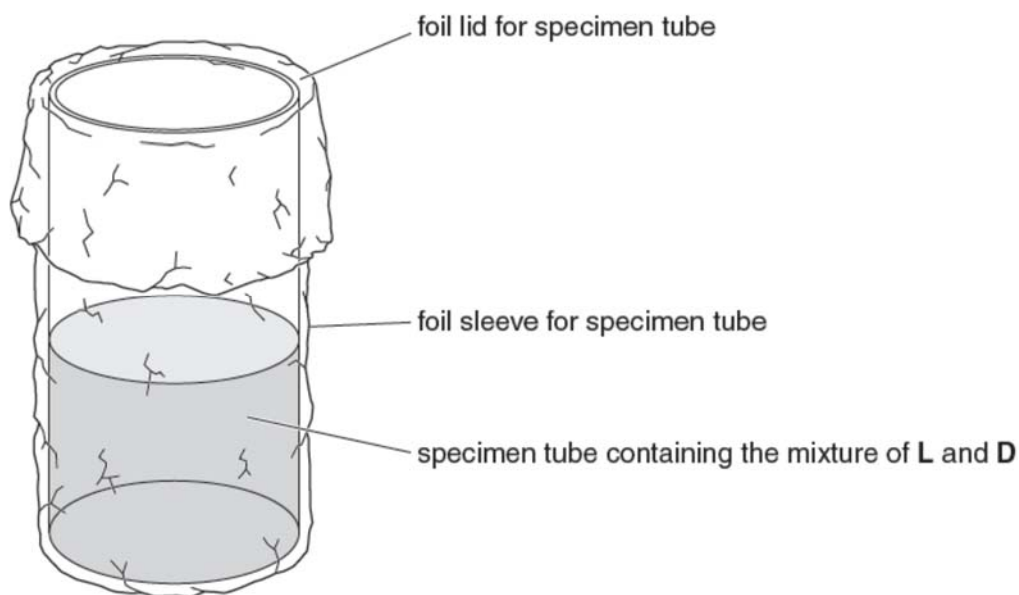

Fig. 1.1
6. Immediately wrap the specimen tube containing the mixture of **L** and **D** in foil. Cover the specimen tube with a foil lid, as shown in Fig. 1.1. This should be easy to remove to obtain the mixture of **L** and **D**. Put back the covered specimen tube containing the mixture of **L** and **D** in the beaker with ice.